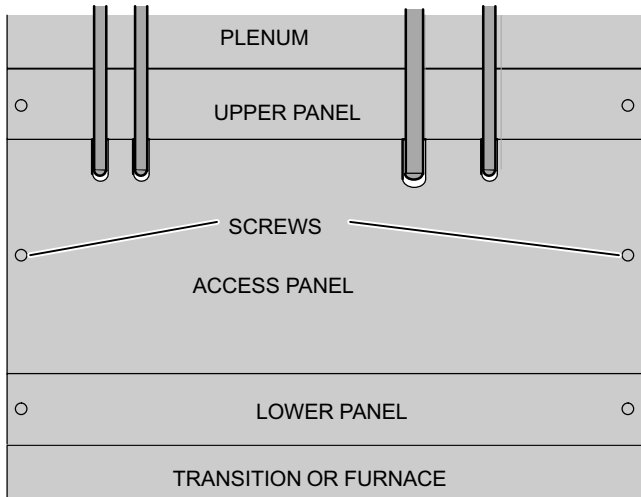

Figure 2. Front Humiditrol® panels
2. Remove two screws to remove the access panel (see figure 2).